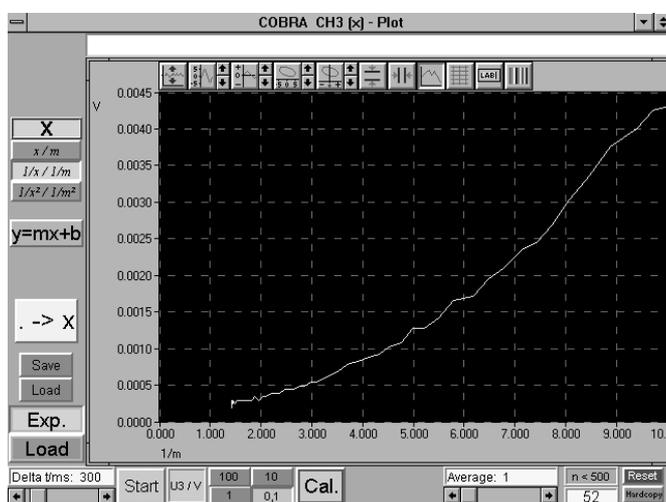

Fig. 5: Illumination intensity as a function of the inverse value of distance.
- The button \langle 1/x / 1/m \rangle shows the inverse value of the distance on the x -axis. The graph is also non linear (cf. Fig. 5).